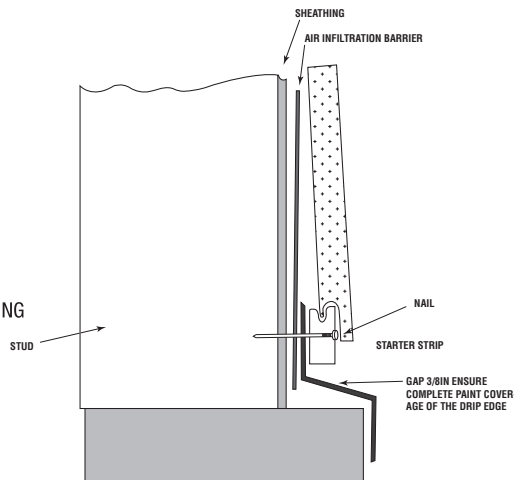

Figure 7
- Siding must have 2 in. clearance from masonry, concrete, brick, stone, stucco or mortar, or be properly flashed (see Fig. 7).
- In areas where the bottom drip edge of the siding is adjacent to flashing, provide a minimum 3/8 in. gap between bottom drip edge of the siding and the flashing (see Fig. 7).
- Install flashing in a manner that creates proper out-sloping (see Fig. 7).